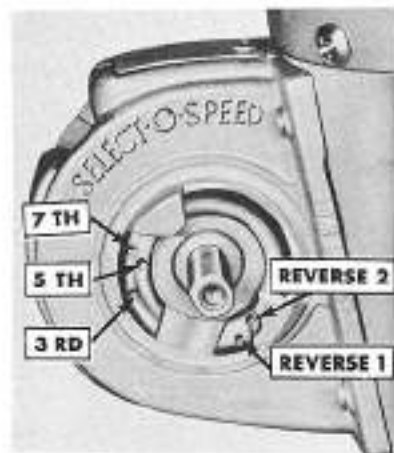

Figure 11
To move the selector lever to the opposite side of the shifter mechanism, take off both covers, Figure 3, by removing the Phillips head screw as shown at (1), Figure 11. Remove the selector lever from the shaft and position it on the shaft on the opposite side of the shifter mechanism. Switch the covers and reinstall with the Phillips head screws. Tighten securely.
**Selector Lever Stops:** Installation of the selector lever position stops enables the operator to establish a pre-determined shift pattern between two gears. These stops are especially convenient for loader and other material handling operations. The speed stop screws can be positioned in any two of the gears 3, 5, 7, R1, or R2, by inserting them in the holes provided as shown in Figure 11. These stops can be over-riden to obtain any gear by pulling outward on the spring loaded selector lever and shifting to the desired gear. When selector stops are not desired, the stop screws should be placed in the holes on the side opposite the selector lever. Tractors will be shipped from the factory with the stop screws in this location.